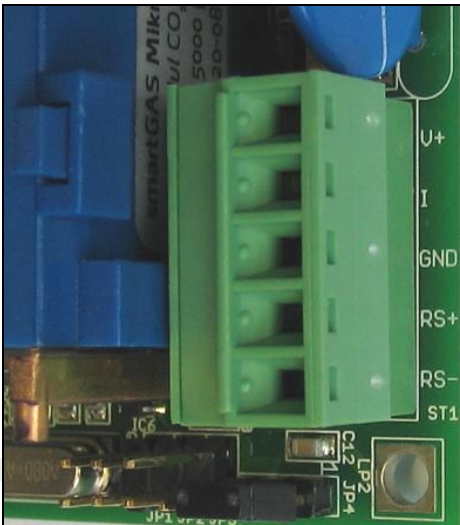

Figure 1. Power supply connections
Connections and signal output for the smartMODUL^{PREMIUM} are via the **ST1** connector (Figure 1). For operation and use of the current output, the sensor must first be installed and connected. To avoid faults and possible damage to the device, we recommend adherence to the following sequence of operations:
3. Connect the power supply to **V+** and **GND**. Connect the signal cable for current output **I** and **GND** or alternatively **RS+**, **RS-** and **GND** for RS485 communication. **GND** is the common ground for the power supply, the current signal and for RS485. Make sure that the sequence of the connections on the plug corresponds to that on the circuit board (make sure the plug is inserted correctly! → see Figure 1).